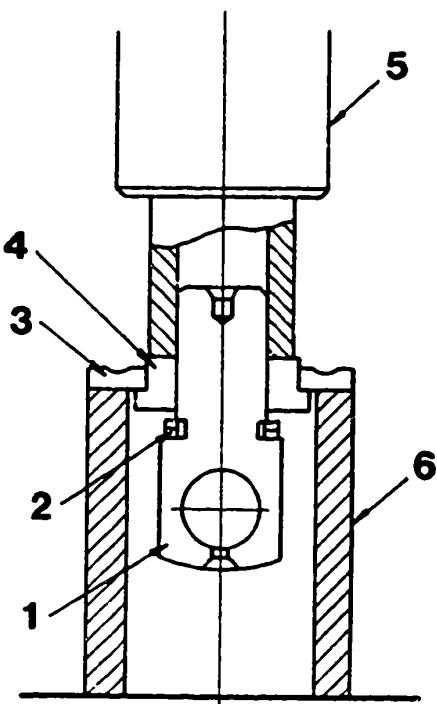

Fig. 66: Pressing off outer race
4) Press off outer race of bearing beneath press as shown in Fig. 66.